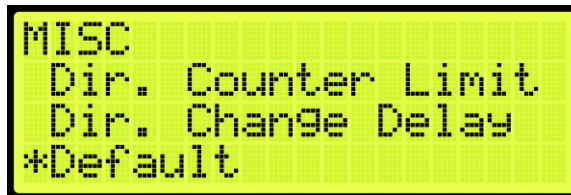

Figure 473: MISCELLANEOUS Menu – Default
- From the MISCELLANEOUS menu, scroll and select Default (See Figure 473).
2. From the MISCELLANEOUS menu, scroll and select Default (See Figure 473).